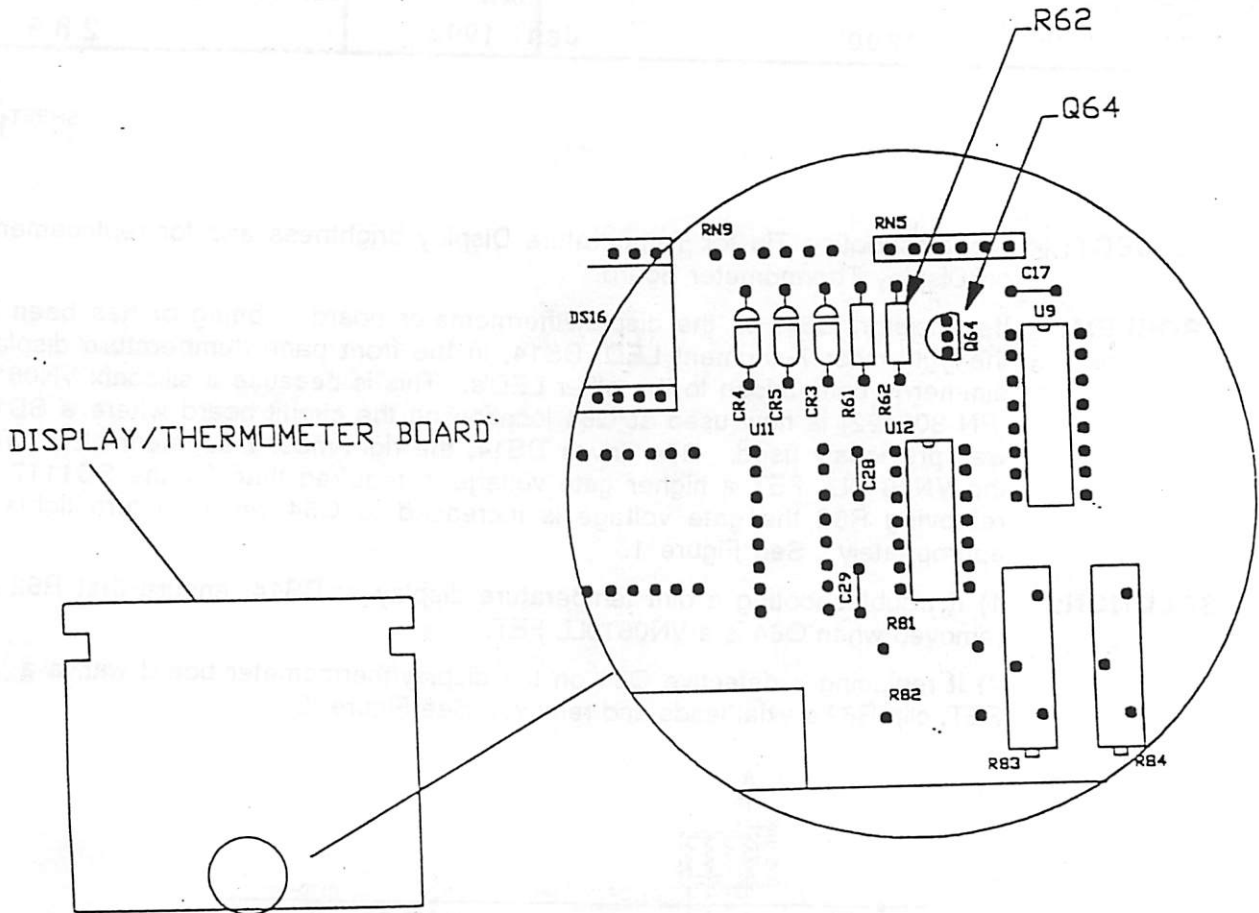

Figure 2. Display/Thermometer Board Partial Layout
2) If replacing a defective Q64 on the display/thermometer board with a a VN0610LL FET, clip R62's axial leads and remove. See Figure 2.